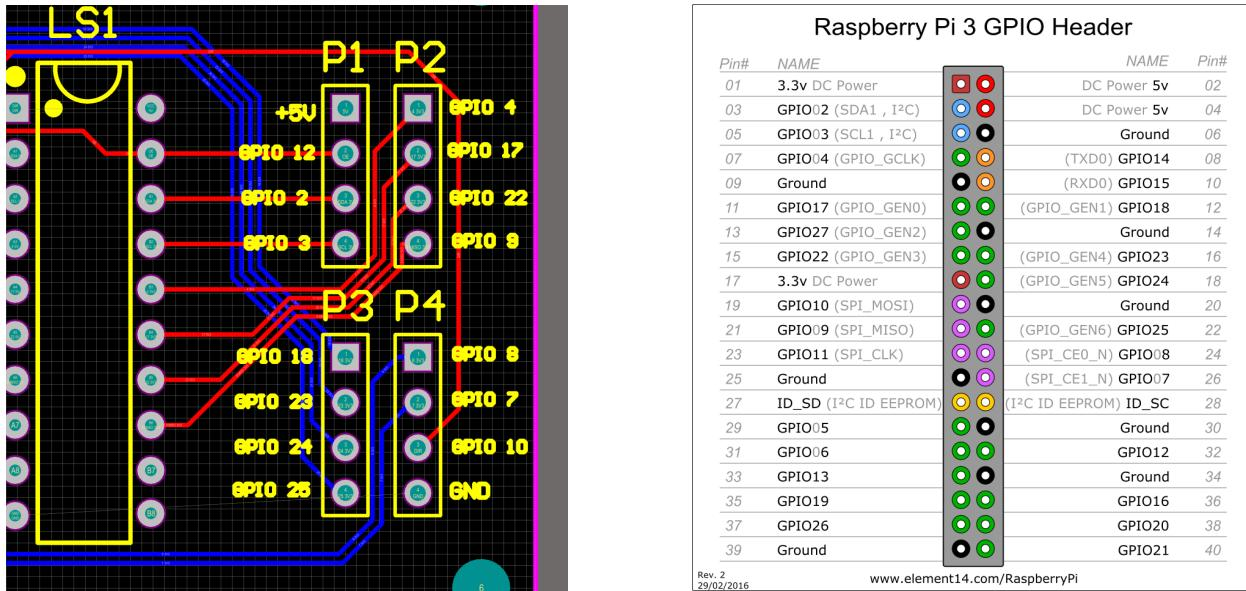

Figure 32: Raspberry pi to Logic Shifter board
The Logic Shifter PCB is not included in the adafruit project, the following will be descriptions as to how to include that in the wiring and routing. Figure 32 shows the pin connections on the Logic shifter, labeled with which pin they connect to on the Raspberry Pi. We suggest putting the logic shifter board in the 3D printed head, and routing the wires through the body and up through the pvp pipe "neck".
****Note**** In Figure 32 the pin labels on the board (left) correspond to the pin NAME not the pin number. So pin 12 is the pin NAME GPIO 12, and **Not** pin#12